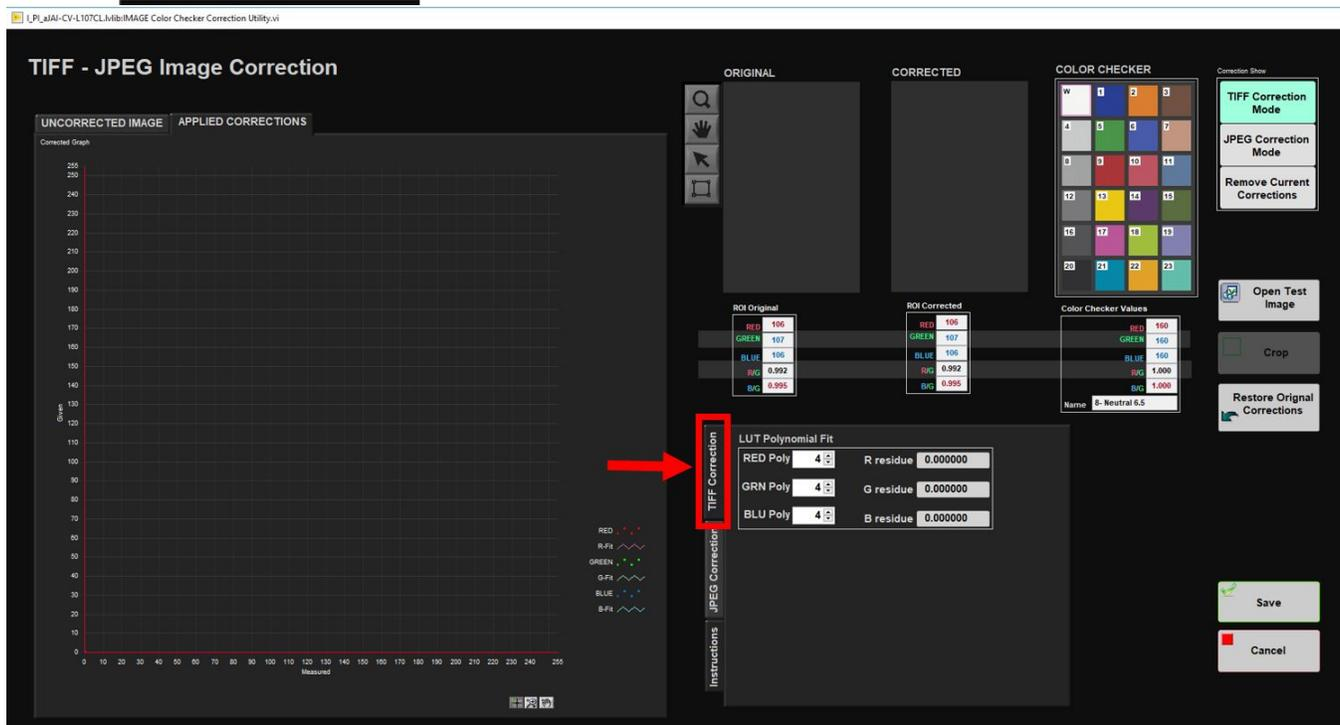

Figure 38. TIFF Correction Window selected, outlined in red
8. In the **BCG Correction** Window select the **TIFF Correction** tab (Figure 38). In the large graph window on the left select the **Uncorrected Image** tab.